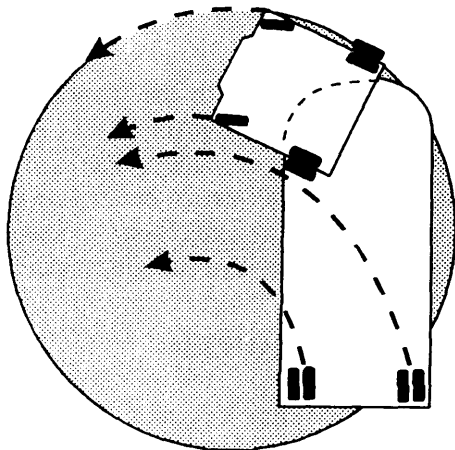

Figure 7-22.—Tractor-trailer left turn off tracking.
**LEFT TURNS.**— On a left turn, ensure you have reached the center of the intersection before you start the left turn. If you turn too soon, the left side of your vehicle may hit another vehicle because of off tracking (fig. 7-22).